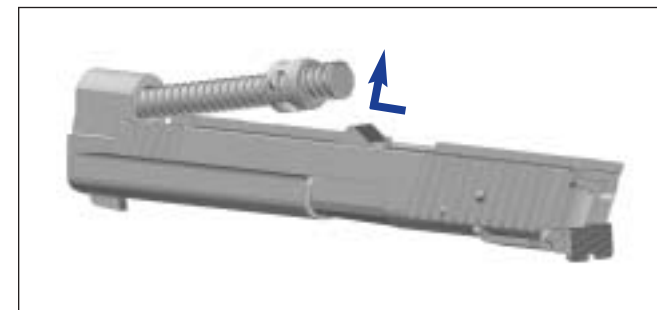

Fig. 10
- Press in recoil spring guide 61, raise it carefully and remove recoil spring 62 with recoil spring guide 61 from the slide 50 (Fig. 10).